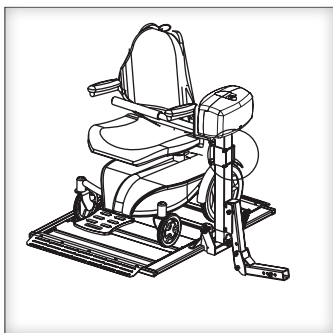

Figure 34-3
3. Loosen the two bolts and nuts in back of the vertical tube. [Figure 34-3 and 34-4] Allow arm assembly to lower until the arm contacts the seat.